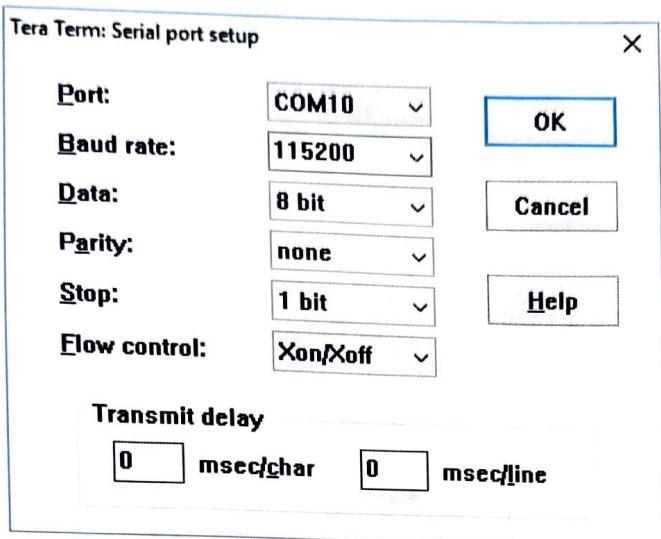

Figure 10
3. Choose "Setup | Serial port..." from the *TeraTerm* menu and use the serial port settings as shown in *Figure 10* (Port: may have a number if connected). The settings for a serial connection are 115,200 baud, No parity, 1 stop=bit, Xon Xoff flow control.